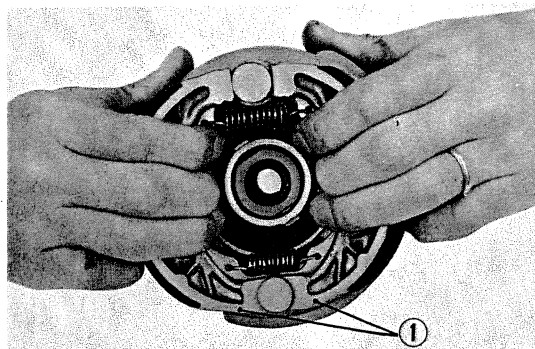

Fig. 101 Brake shoe removal
- 5) Remove the brake arm, unhook the two brake shoe springs and then disassemble the brake shoes from the brake panel. (Fig. 101)